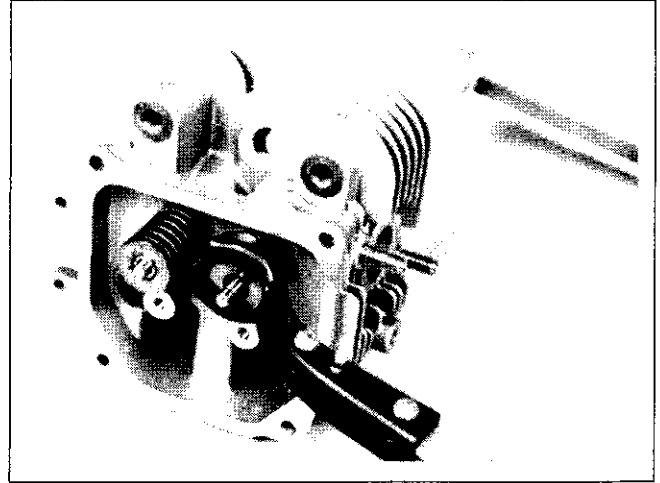

Figure 9-49. Removing Valves with Valve Spring Compressor.
2. Compress the valve springs using a valve spring compressor. See Figure 9-49.